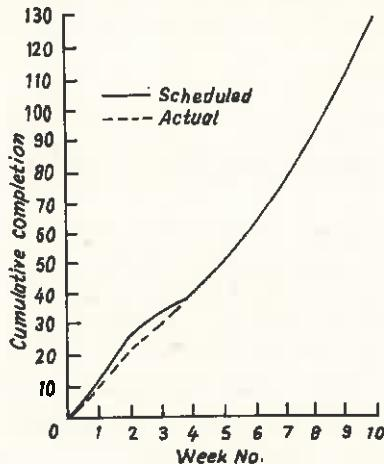
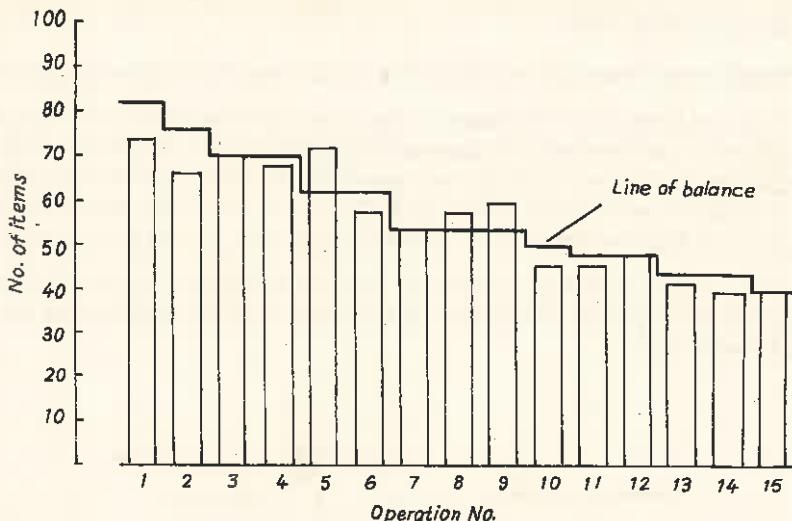

Fig. 7.33. Objective chart.
Fig. 7.35. Progress chart.
(1) Objective Chart
- The objective chart (Fig. 7.33) shows the expected schedule of products (*i.e.* scheduled deliveries) and the actual completion rate (*i.e.*, actual deliveries made by a date).
- *Objective chart* and *Program plan* are prerequisites for use of the LOB technique. They need to be constructed only once for any job, unlike the following documents i.e. (3) & (4) which must be constructed each time the schedule and progress is examined.
(3) Progress chart
- Suppose, for example, the review date is week No. 4 (Fig. 7.33), by which, according to objective chart, 40 items should have been completed i.e. 40 items should have passed operation 15 (Fig. 7.35) of the program plan. The number of items that have completed this and each of the other operations can be obtained simply by checking inventory levels.
(4) Line-of-Balance
- Since the object of the exercise is to compare *actual progress* with *scheduled progress*, the information given in progress chart (Fig. 7.35) must be compared to required progress. This is done by constructing a *line* on the progress chart which shows the requisite number of items which should have been finished at each operation at the time of review.
(5) Analysis of Progress
- In comparing required progress with actual progress it is again convenient to work backwards, beginning with the last operation (15). From Fig. 7.35(progress chart) it is clear that the requisite number of completed items have been delivered to the customer (operation 15=40), a fact which is reflected by the actual performance line on the objective chart.